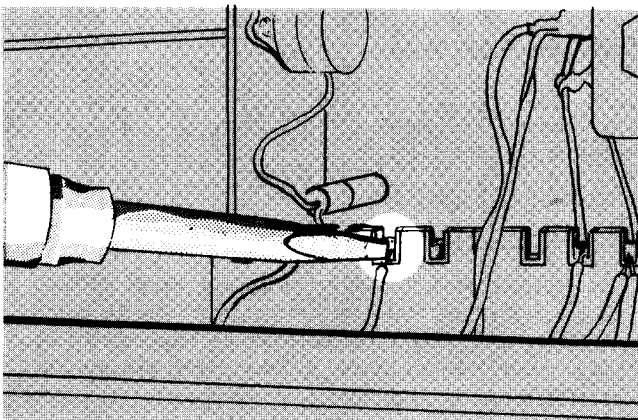

Fig. 4-2. Correct application of soldering iron when soldering to a ceramic terminal strip.
3. Apply heat by touching one corner of the soldering iron tip to the base of the notch. See Fig. 4-2. Do not force the tip of the iron into terminal notch, as this may chip or break the ceramic strip.